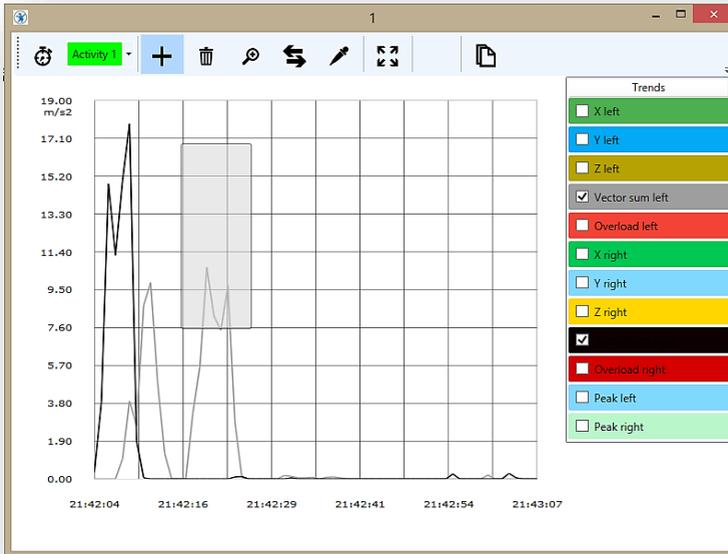

Figure 31: select the area of each activity
3. Drag and mark the area (See figure31)